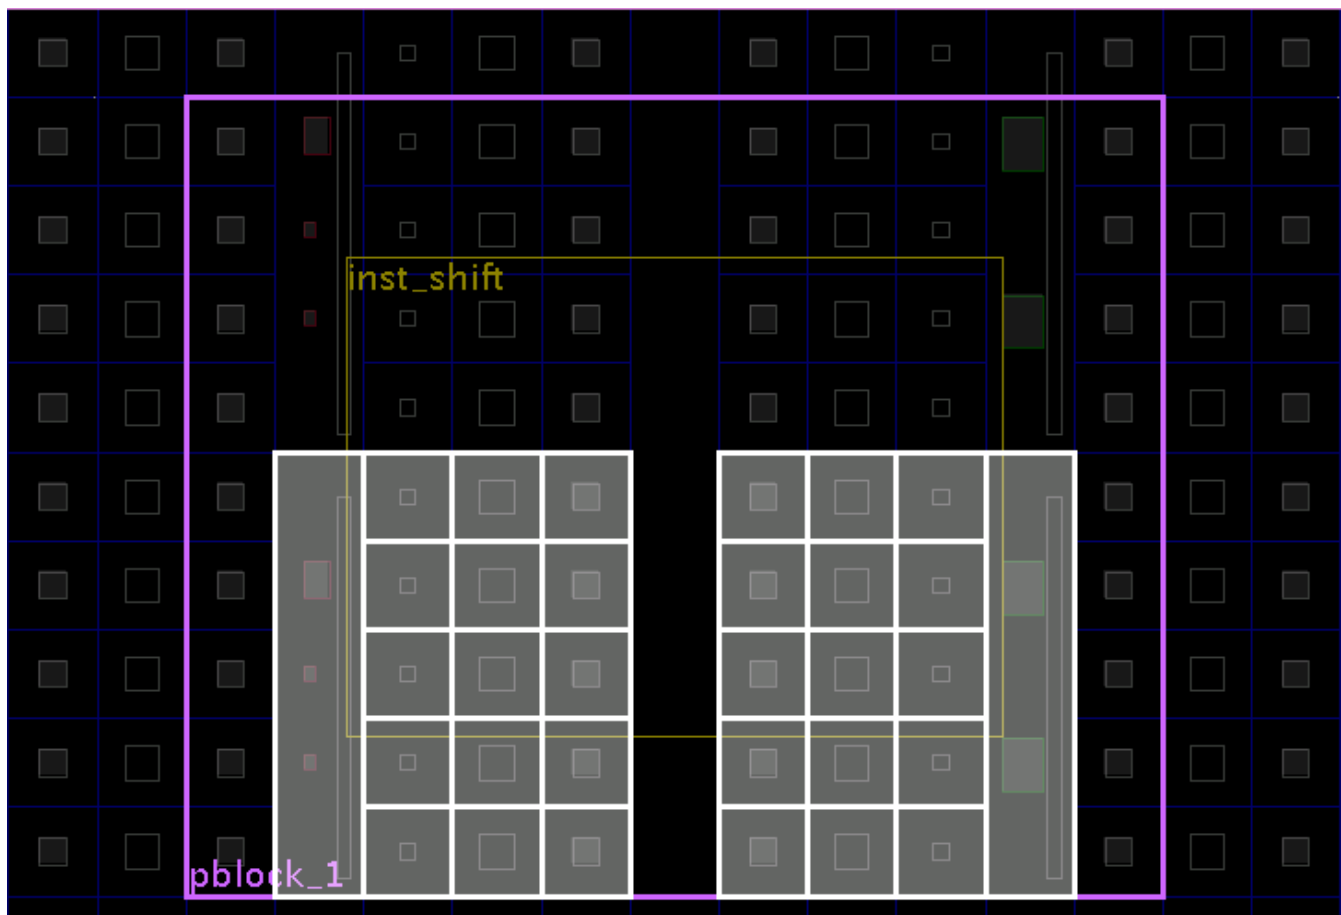
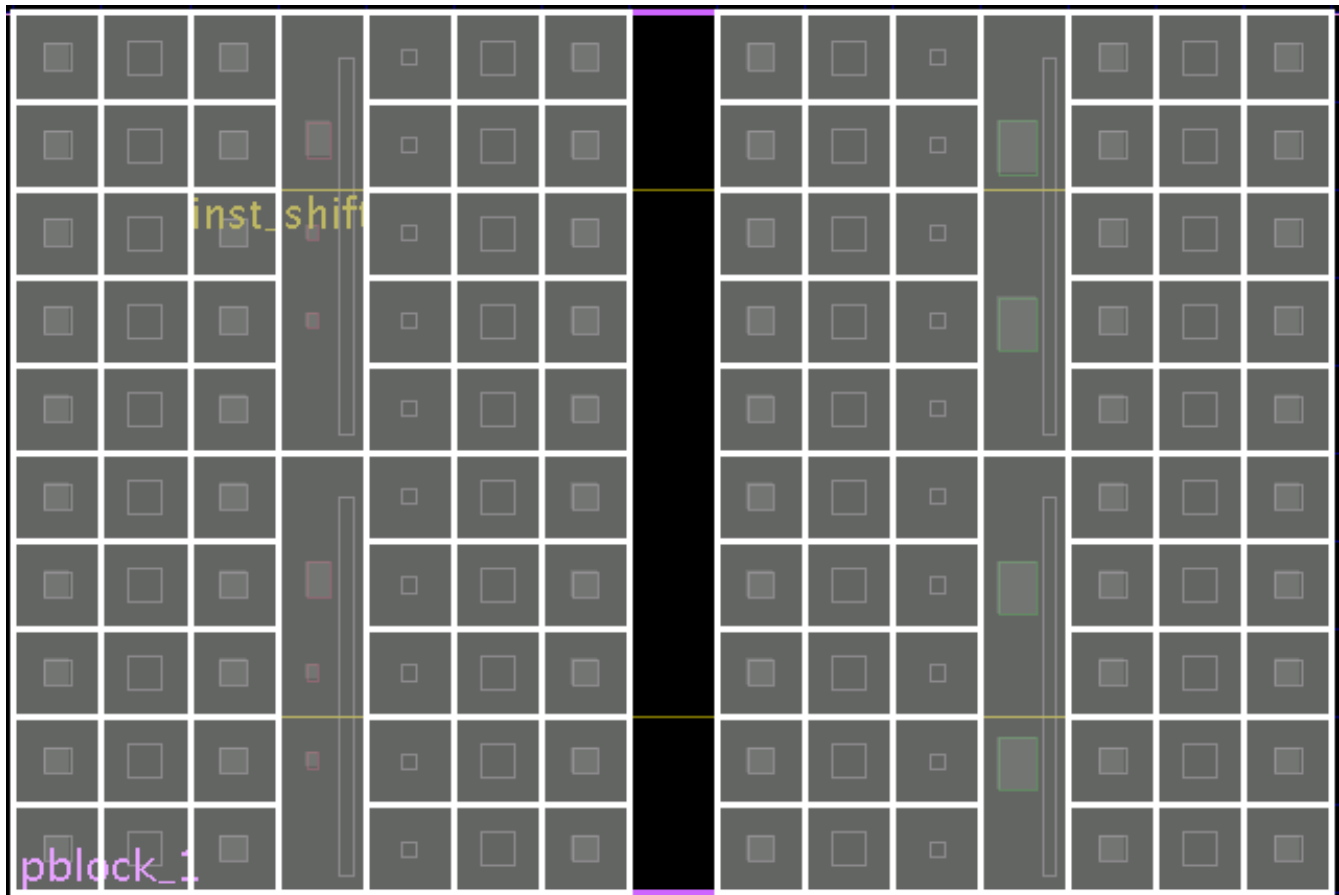

Figure 6-1: `SNAPPING_MODE` Example - UltraScale
Figure 6-2: PU Aligned Pblock
Figure 6-1 and Figure 6-2, page 77 below give an example of how `SNAPPING_MODE` adjusts the Pblock for PU alignment. In Figure 6-1, despite the larger outer rectangle, only the selected tiles belong to the RP Pblock. The upper block RAM and DSP sites are not included because they are not fully contained in the Pblock, and the associated CLB sites are not included either, based on the PU rules. There are also CLB sites on both the left and right edge that are not included in the Pblock because the adjacent CLBs are not owned by the original rectangle.
While `SNAPPING_MODE` made the above Pblock legal for the RP, it is possible that the intent was to include all of these sites. By making a small adjustment to the original Pblock rectangle, you can prevent `SNAPPING_MODE` from removing sites that are intended for the PR region. In Figure 6-2 the Pblock has been expanded by one CLB on the left, right, and top edges. The highlighted tiles that are owned by the RP Pblock now match the outer rectangle.
**Note:** The images Figure 6-1 and Figure 6-2 were created using highlighting scripts that the Vivado Design Suite tools create automatically for Pblocks of Reconfigurable Partitions. The following steps can be used to reproduce these images for debugging/verifying Pblocks: